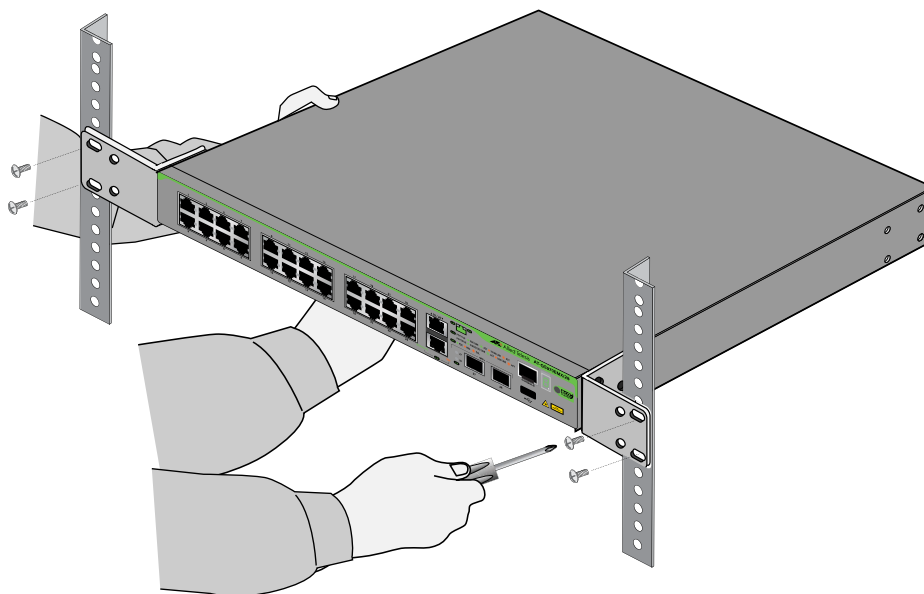

Figure 42. Securing the GS970EMX/28 Switch in a Standard 19-inch Equipment Rack
3. Have another person hold the switch at the selected location in the equipment rack while you secure it using four standard equipment rack screws (not provided). Refer to Figure 42 on page 80.